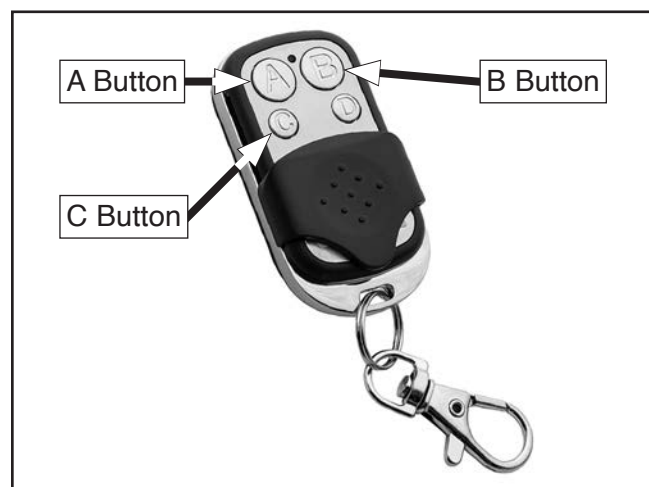

Figure 40. Location of remote control buttons.
9. Press A button to turn main motor **ON** (see **Figure 40**). Motor should run smoothly with little or no vibration or rubbing noises.
10. Press B button to turn main motor **OFF** (see **Figure 40**).
11. Press C button to turn filter brush motor **ON** (see **Figure 40**).